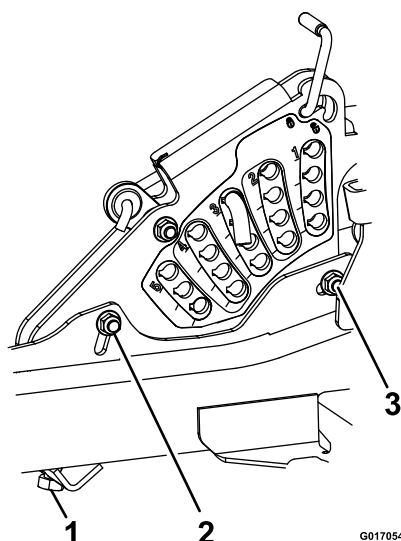

Figure 29
14. If the four deck links do not have enough adjustment to achieve accurate cut height with the desired rake, the single point adjustment can be utilized to gain more adjustment (see Figure 29).